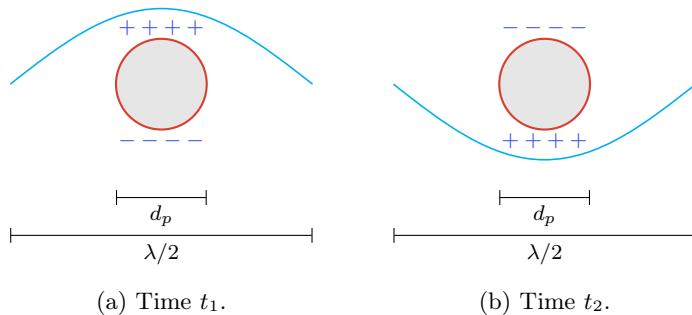

Figure 3.21: Polarizability fluctuations in SALS.
- Since we're considering SALS, we are in the $\lambda \gg d_p$ regime (as in Figure 3.21).